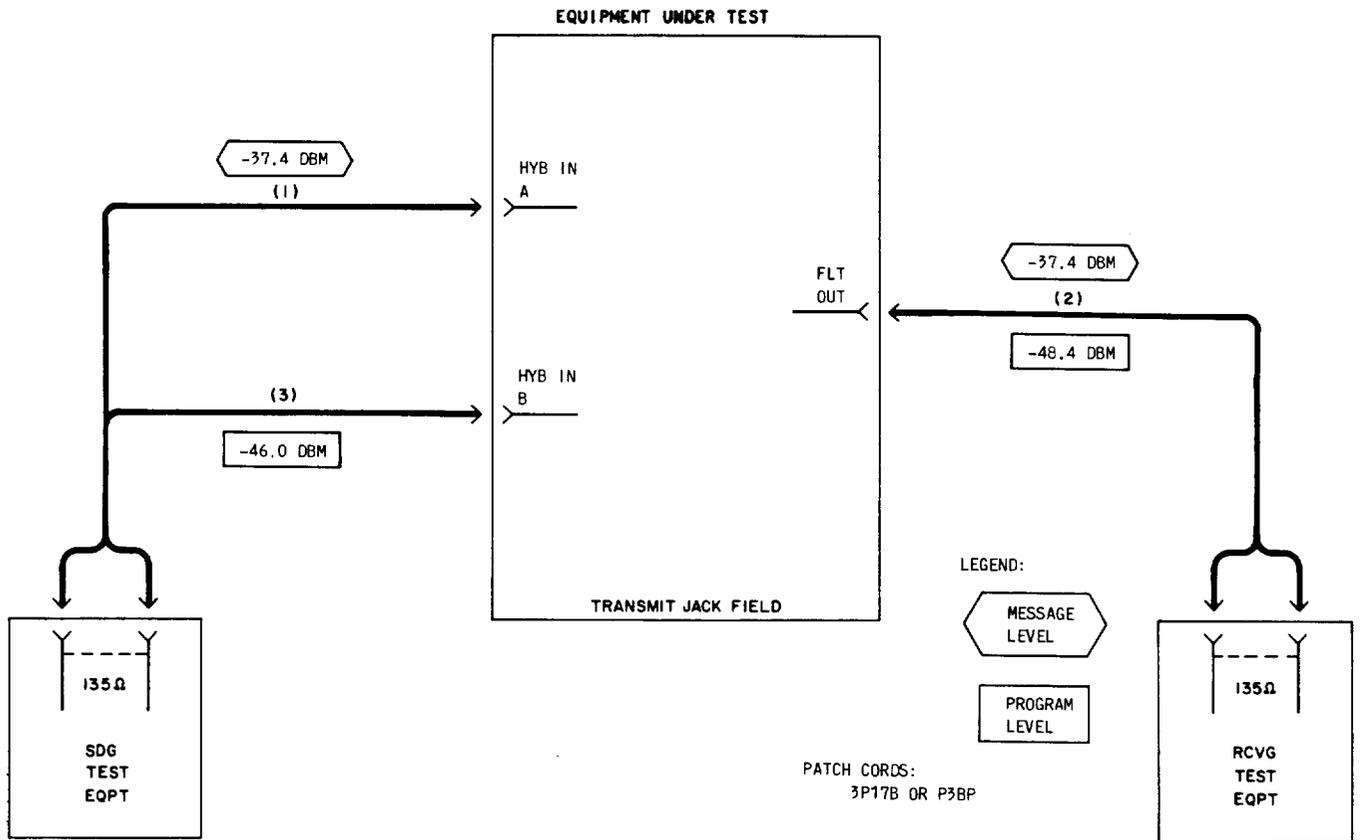

Fig. 5—Transmit Combining Module Test Connections
<p>Note: A group 1 transmit combining module ED-52293 is used in a program combiner without an alternate-use switch.</p> <p>Caution: The transmit combining module to be tested must be out of service before performing these tests.</p> <p>Note: If any requirement in this chart is not met, replace the transmit combining module under test with a spare group 1 transmit combining module.</p> <p>A. Gain Test</p> <p>At transmit jack field,</p> <p>1 Adjust the STE and RTE as follows:</p> <p style="padding-left: 40px;">Frequency: 83 kHz</p> <p style="padding-left: 40px;">Power: -37.4 dBm</p> <p style="padding-left: 40px;">Impedance: 135 ohms, balanced.</p> <p>2 Locate the HYB IN A, HYB IN B, and FLT OUT jacks for the transmit combining module under test.</p> <p>3 Connect the STE to the HYB IN A jack [patch (1), Fig. 5].</p> <p>4 Connect the RTE to the FLT OUT jack [patch (2), Fig. 5].</p> <p>At transmit combining module,</p> <p>5 Adjust the AMPL ADJ control on the transmit combining module, if required.</p> <p>Requirement: -37.4 dBm at the FLT OUT jack.</p> <p>At transmit jack field,</p> <p>6 Remove patch (1), Fig. 5.</p> <p>7 Adjust the STE for 83 kHz and -46.0 dBm.</p> <p>8 Connect the STE to the HYB IN B jack [patch (3), Fig. 5].</p> <p>9 Measure the signal power at the FLT OUT jack.</p> <p>Requirement: -48.4 dBm \pm0.2 dB</p> <p>10 Remove patch (3), Fig. 5.</p>
12	Connect the STE to the HYB IN A jack [patch (1), Fig. 5].
19	Remove patches (1) and (2), Fig. 5.
4	Connect the STE to the HYB IN A jack [patch (1), Fig. 5].
5	Connect the RTE to the FLT OUT jack [patch (2), Fig. 5]. At transmit combining module,
37	Remove patches (1) and (2), Fig. 5. Note: The transmit combining module is now ready for in-service use.